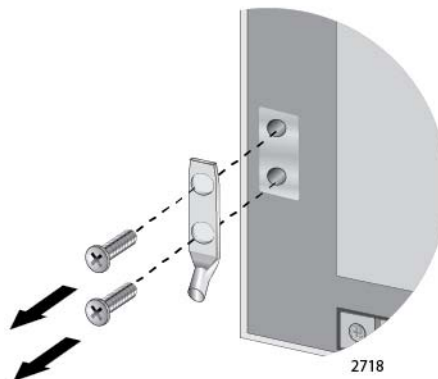

Figure 51. Removing the Grounding Lug
2. Remove the two screws that secure the grounding lug to the rear panel of the chassis, as shown in Figure 51.